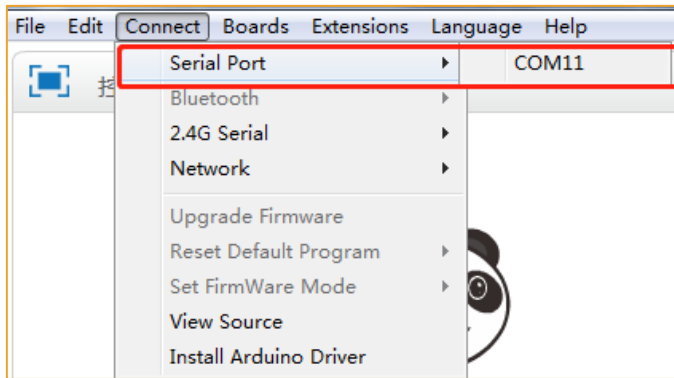

Figure 2-11
- 1) Click “Connect→Serial port→COM4 (the number of COM port is different for different computers)”, as shown in Figure 2-11. After the correct connection, there will be a “Serial port connected” prompt at the top of the software. The mblock and